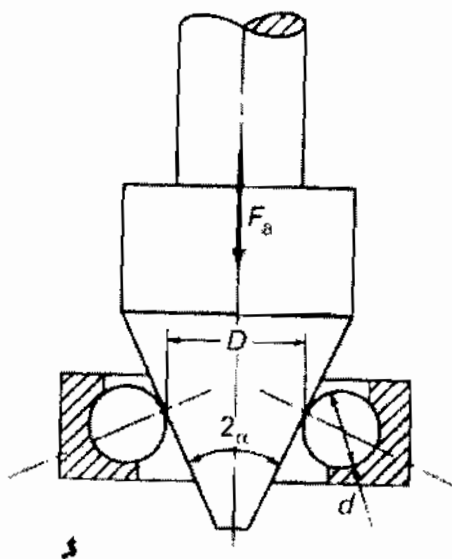

Figure 7
7. A pivot ball bearing is shown in Figure 7, that supports axial loads F_a . There are N balls, each of a diameter d . The cone angle is 2α and the diameter of the cone when in contact with the balls is D . To analyse and design such a ball bearing it is essential to be able to determine the maximum contact pressure.
- (i) Write down an expression for the normal contact force at the ball-cone contact point for each ball. (2)